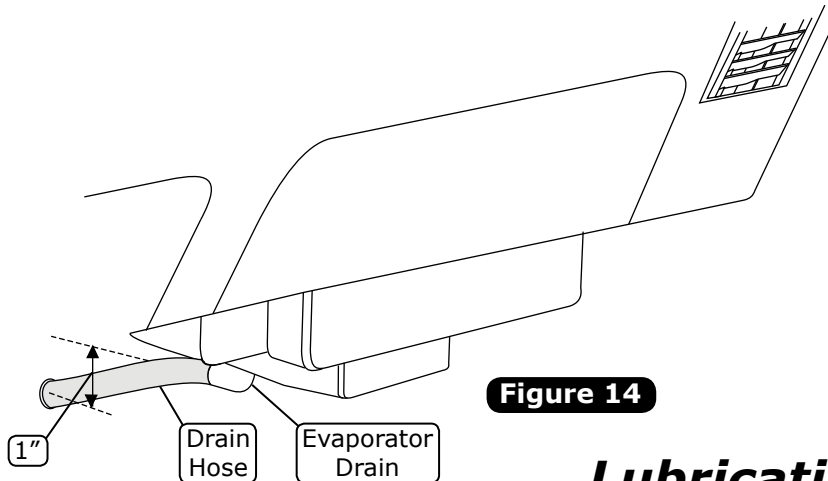

Figure 14
2. In line with the drain, lightly make a mark on firewall. Then, measure 1" down and drill a 5/8" hole through the firewall (See Figure 14, below).